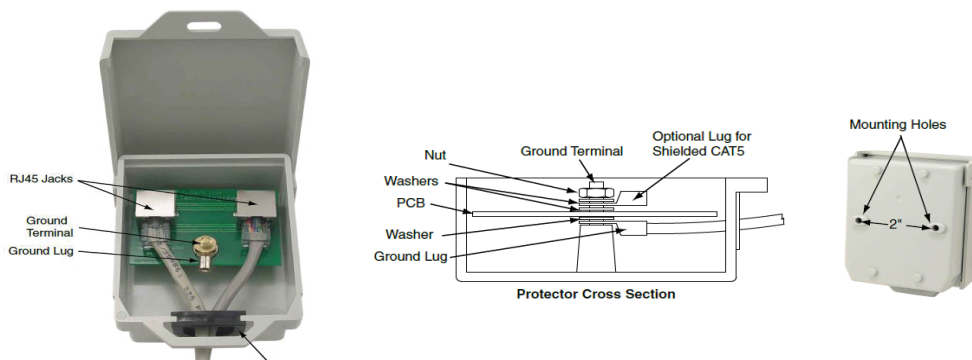

Fig. 4.5
- A surge protector/lightning arrestor is recommended if the RT7000 is mounted outside on an exterior wall. See Fig. 4.5. The ground lug supports up to 12 AWG wire, but check with your municipality for local codes on appropriate grounding. With bidirectional protection, either RJ45 jack can be used. Contact HME if one or more are required.